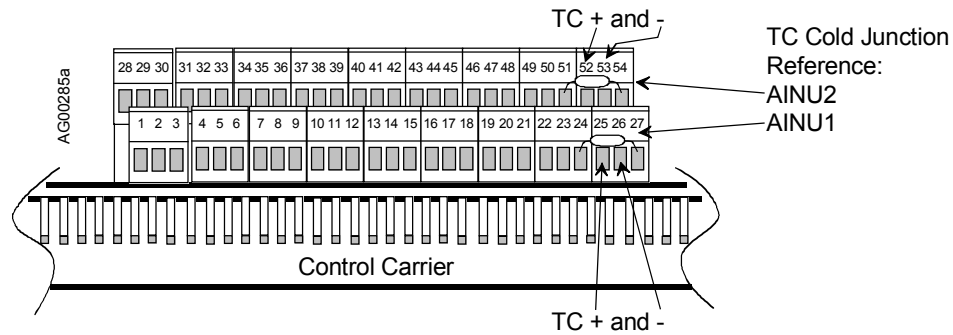

FIGURE 12 TC Reference Junction Locations, AINU1
4. Carefully locate the reference junction body as shown in Figure 12. Press the body of the junction against the terminal body but not block the two intervening terminals.